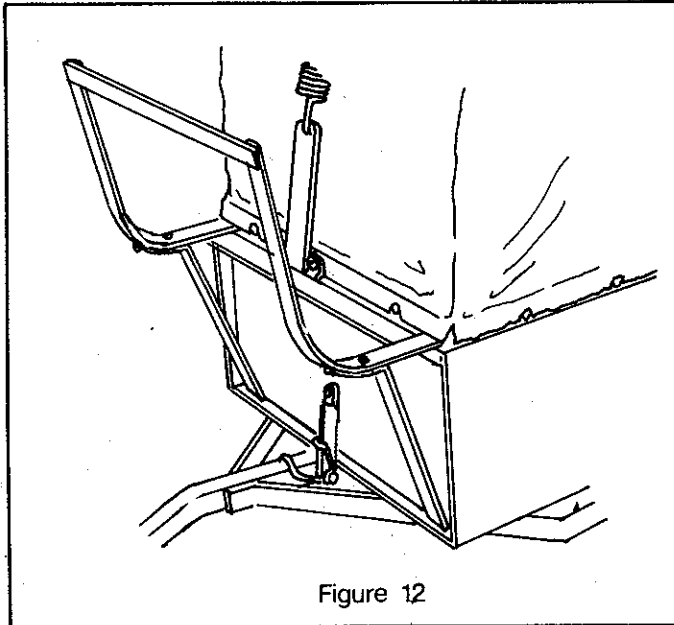

Figure 12
4. The storage rack is assembled and hung on the front of the cart. No hardware for mounting is required. (Figure 12.)